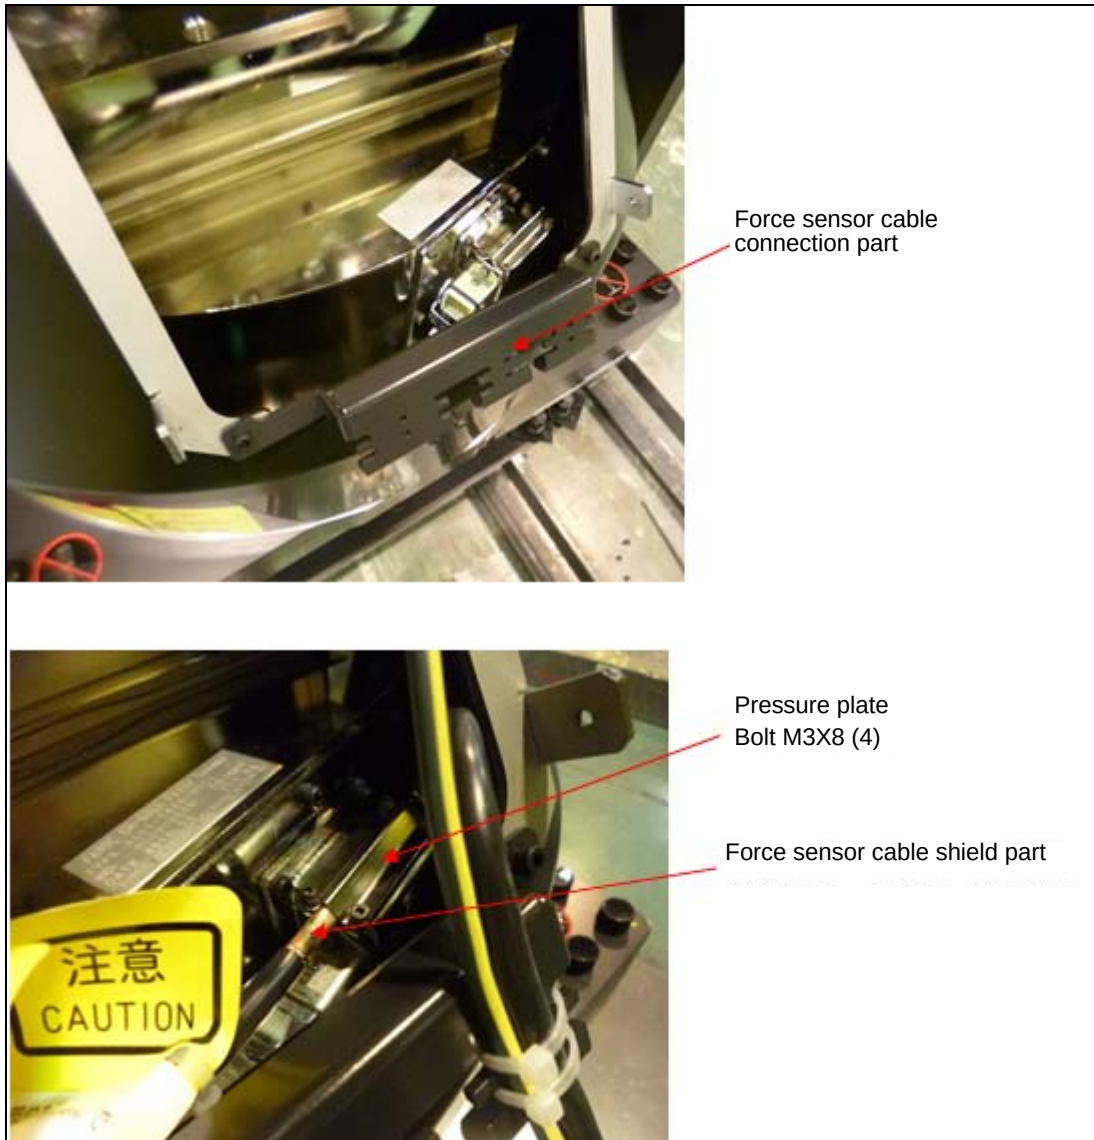

Fig. 2.1 (b) Cable connection (2/4)
- 4 Connect each cable to the connector part behind the robot base following Fig. 2.1 (c) and Fig. 2.1 (d). Be careful not to apply excessive force on the cables, and fix the cables on the lower side clamp with cable ties.